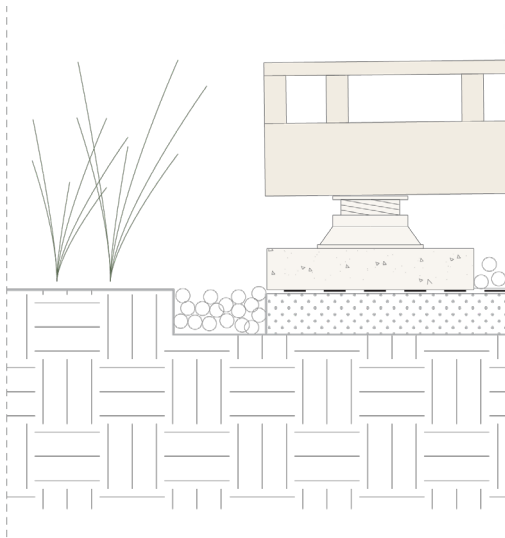

Fig. 1
- Avoid plants touching the decking structure (see Fig. 1)